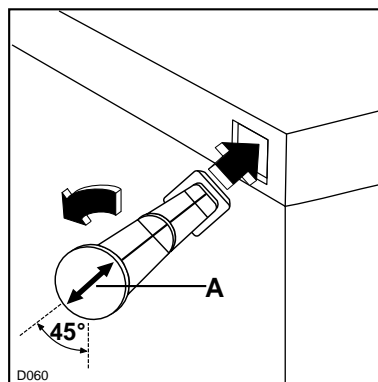

Fig. 2a
The plastic bag containing all relevant documentation also contains two spacers to be fitted into special holes in the back of the appliance. Fit the spacers into the holes, taking care to ensure that the arrow (A) is positioned as shown in Fig. 2a. Then turn them through 45° (arrow (A) vertical) until they lock into place.